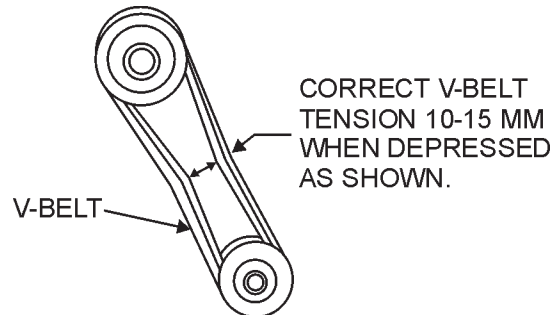

**Figure 19. Engine Air Filter**
1. Remove the air cleaner cover and foam filter element as shown in Figure 19.
2. Tap the paper filter element (Figure 19) several times on a hard surface to remove dirt, or blow compressed air [not exceeding 30 psi (207 kPa, 2.1 kgf/cm2)] through the filter element from the air cleaner case side.